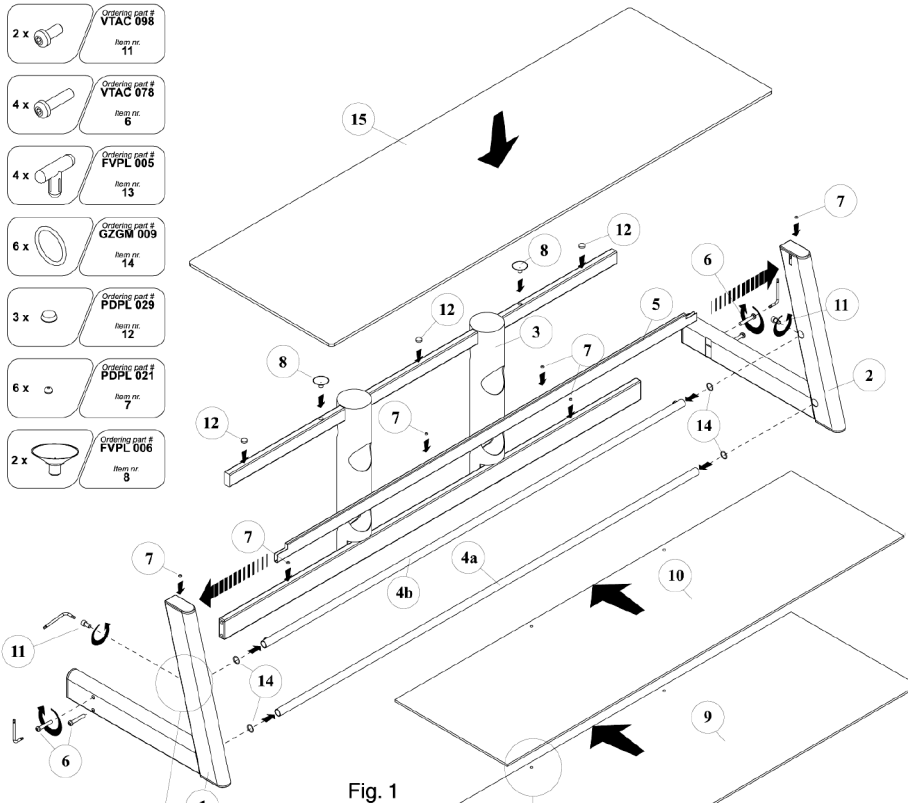

Fig. 1
- A. PLACE the rear CMS® (Cable Management System) post (3) upright on the floor with the shelf slots facing towards the front as shown in Fig. 1.
- B. ALIGN the two holes located on the lower rear support bar ends of the CMS® post with the matching holes located towards the rear of the bottom LEFT side frame (1). INSERT two long screws (6) and SECURE the side frame (1) to the CMS® post bar (3) using the supplied Allen wrench, as shown in Fig. 1. DO NOT FULLY TIGHTEN THE SCREWS.
- D. PLACE three "O" rings (14) onto the ends of the second round shelf support bar (4a) (the one without the threaded inserts) and space them out evenly along the whole length of the support bar. INSERT the second round shelf support bar (4a), into the hole located on the upright portion of the inside bottom of the LEFT side frame (1). INSERT the upper front support bar (5) into the cut out slot located on top of the LEFT side frame so that the notches at the end of the bar are facing up as shown in Fig. 1.
- E. REPEAT steps B, C and D above for the RIGHT side frame (2). DO NOT FULLY TIGHTEN THE SCREWS.
- F. GO BACK AND FULLY TIGHTEN all of the screws to secure the side frames (1) and (2) and the CMS® post bar (3) using the supplied Allen wrench.
- G. PLACE the smaller glass pads (7) onto the upper front support bar (5), the top of the upright side frames (1) and (2), and the lower rear support bar of the CMS® post (3), and PLACE the larger glass pads (12) onto the upper rear support bar attached to the CMS® post (3) as shown in Fig. 1.
- H. INSERT the two rubber suction cups (8) into the holes located on the upper rear support bar of the CMS® post (3) as shown in Fig. 1.